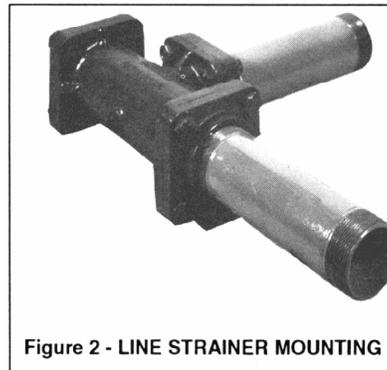

Figure 2 - LINE STRAINER MOUNTING
When using the Blackmer T-Type strainer as a line strainer, 2, 2 1/2 and 3-inch NPT tapped pipe flanges are available to adapt the strainer for use in the intake line. To mount the strainer in the intake line, use the strainer body flange (Ref. No. 42), flange gasket (Ref. No. 43A), and four (4) mounting bolts and nuts (44D & 44E). See Figure 2.